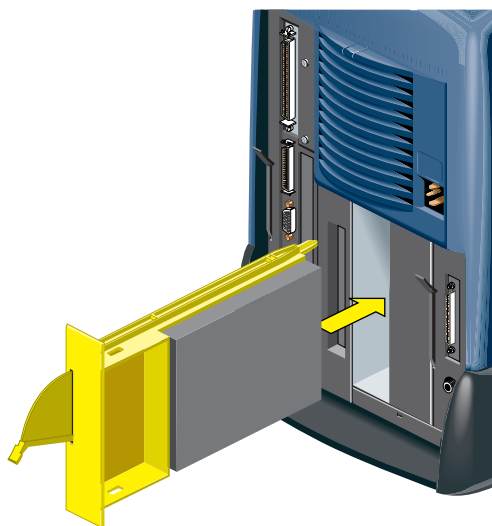

Figure 2-10 Installing the Replacement System Drive Module
- 5.) Slide the replacement system drive module into the system drive bay (Figure 2-10 on page 32).